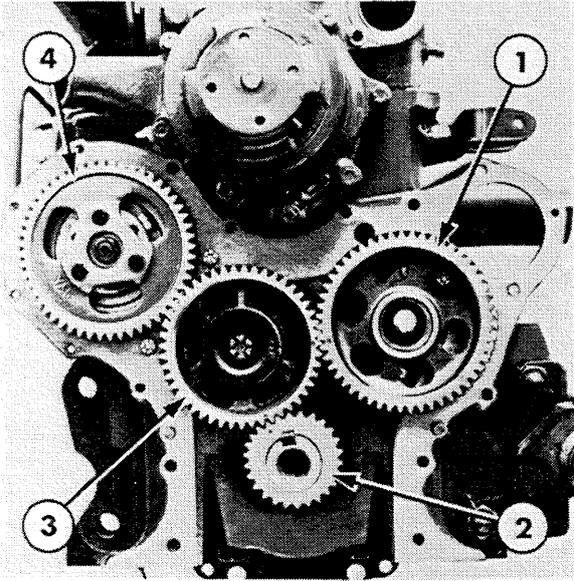

Figure 25
4. Assemble the fuel injection pump to the engine front plate. Check No. 1 piston is at T.D.C. and install the injection pump drive gear with the timing mark aligned with that of the camshaft drive gear, Figure 25.